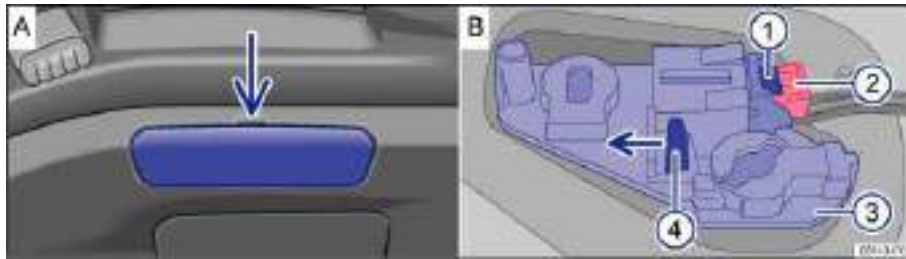
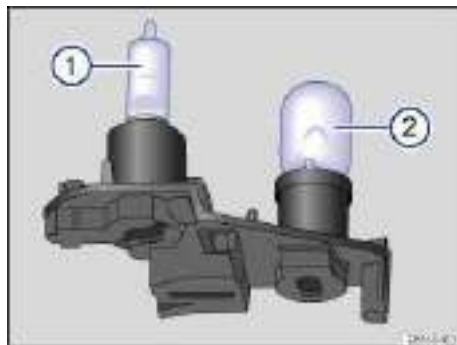

Fig. 204 In the rear hatch: Removing the cover and the bulb holder.
Fig. 205 Bulb holder with backup light bulb 2.
3.	Using the screwdriver from the vehicle tool kit carefully pry the cover off with the flat blade of the screw driver inserted in the opening ⇒ fig. 204 A (arrow).
4.	Remove the red locking mechanism (2) B as illustrated and disconnect the electrical connector with the lever pressed down (1) B.
5.	Press the locking tab (4) B in the direction of the arrow and remove the bulb holder (3) B.
6.	Replace burned out rear light bulbs ⇒ fig. 205 (1) or (2) with bulbs that are identical to the ones being replaced.
8.	Insert the electrical connector into the bulb holder until it clicks into place. Press the red locking mechanism ⇒ fig. 204 (2) B back in.